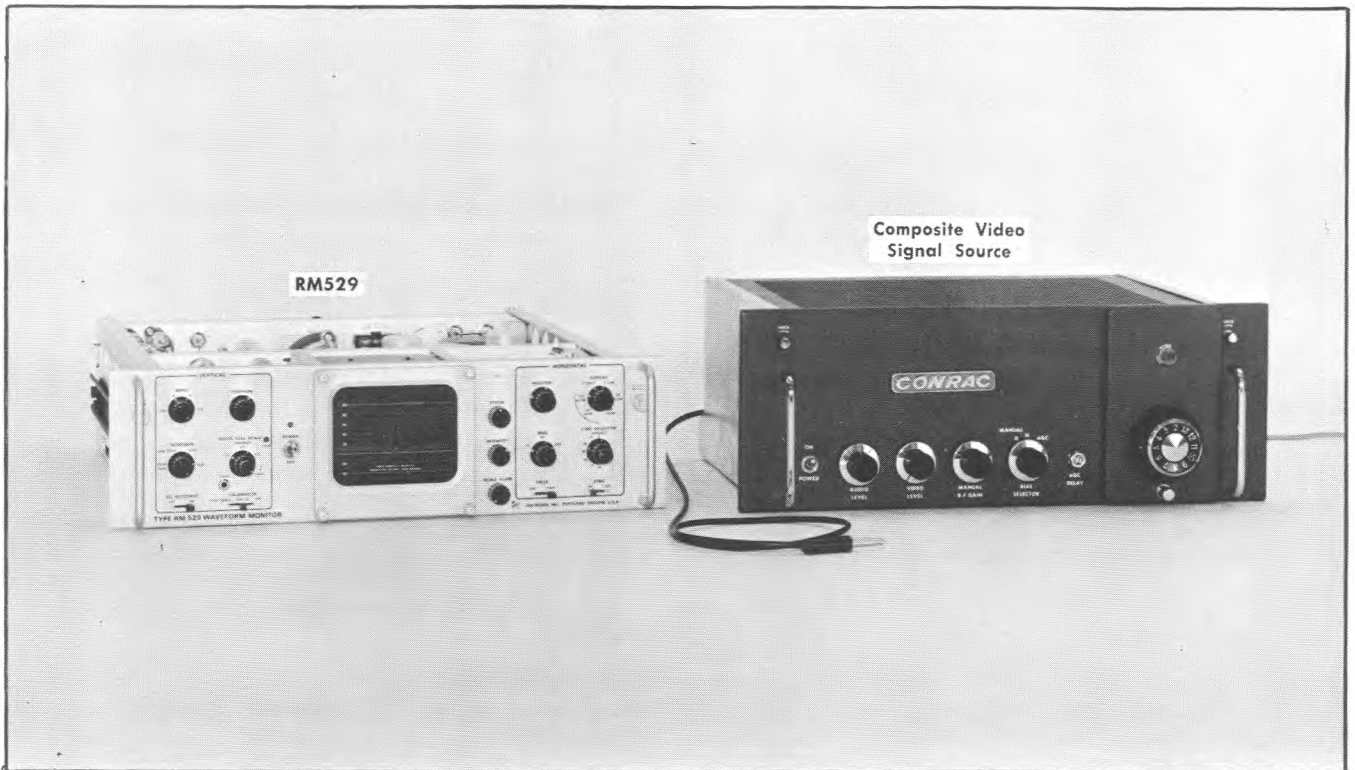

Fig. 6-13. Test equipment required for steps 12, 13 and 14.
- a. Test equipment setup is shown in Fig. 6-13.